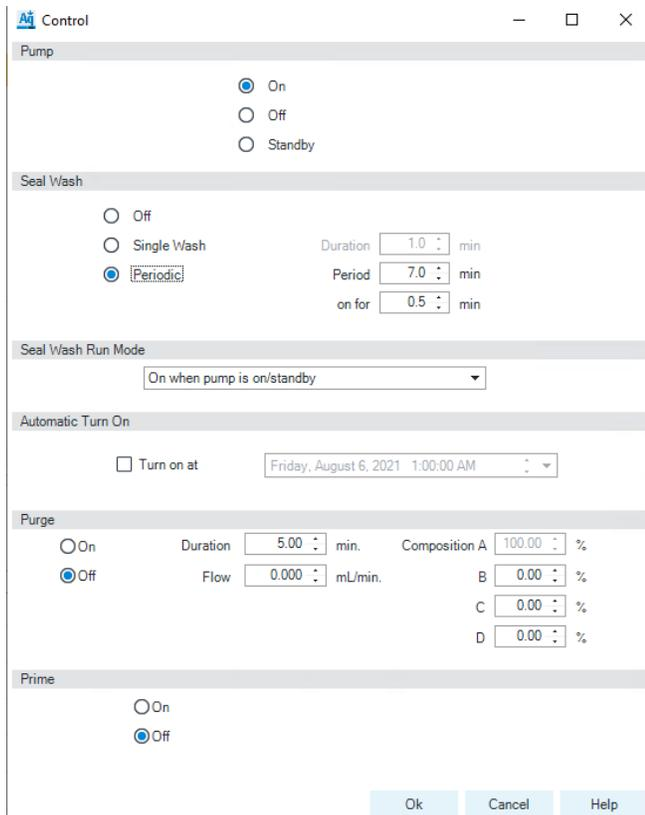

Figure 3 Seal wash settings (1290 Infinity Pumps)
The dialog can be found under the control screen, it is recommended to use the settings displayed in Figure 3 on page 11.
- Setting can be changed in the Control screen, see Figure 3 on page 11.